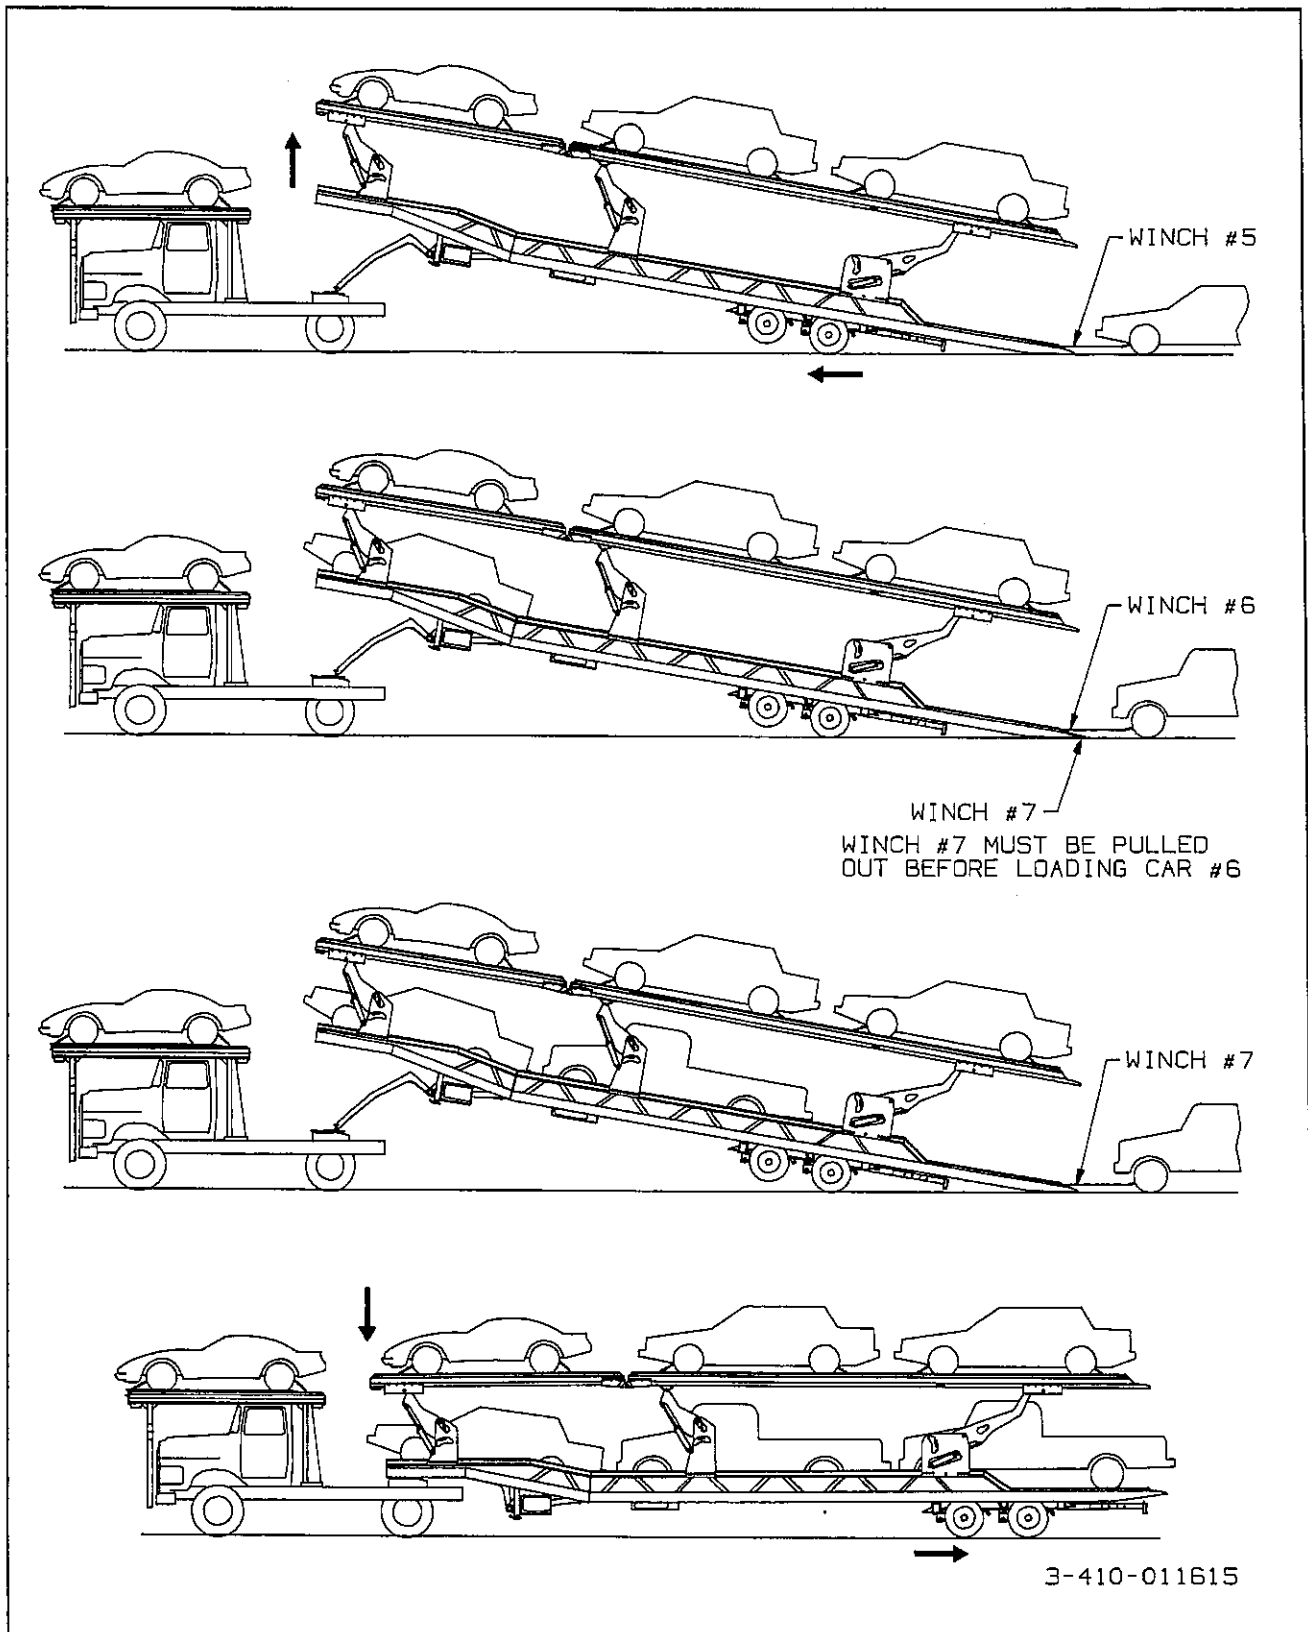

Figure 3-11 Loading the Lower Deck
a. Make sure there is adequate clearance between the upper and lower deck to load vehicles on the lower deck. (See Figure 3-11.)